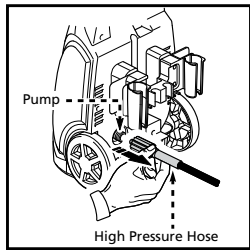
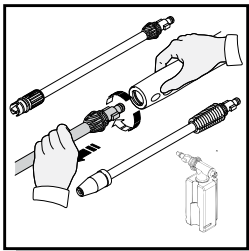

Fig. 24
Fig. 25
- Remove high pressure hose from spray gun (Fig. 24) and unscrew the other end of the high pressure hose from the power washer (Fig. 25).